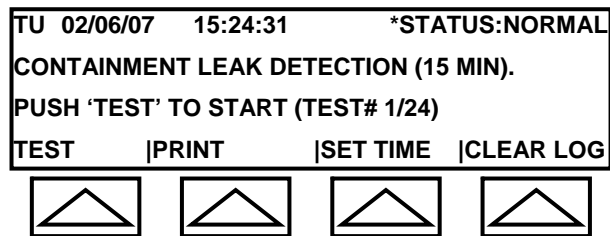

Fig. 5-2a: CLD Submenu
- ◆ ENTER – enter the testing time using the data keypad then select ENTER. LCD returns to the CLD Submenu (see Figure 5-2a).
- c. Use the data keypad to enter the test time in minutes then select ENTER. The LCD returns to the previous screen (see Figure 5-2a).
- e. When test ends, the LCD will return to the CLD Submenu (see Figure 5-2a).